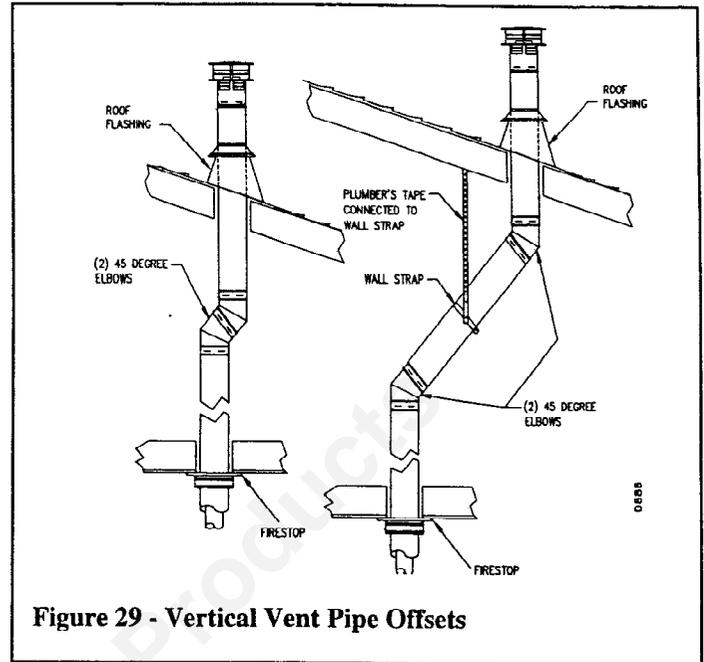
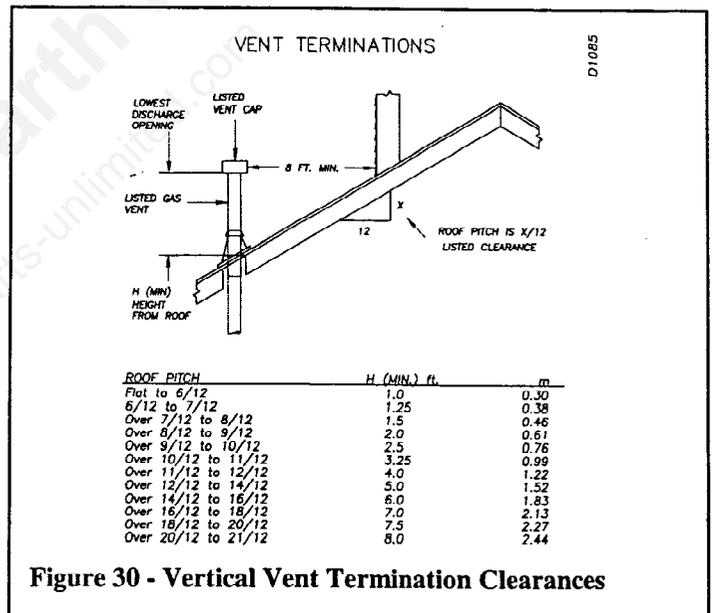

Figure 29 - Vertical Vent Pipe Offsets
Figure 30 - Vertical Vent Termination Clearances
1. Determine the route that your vertical venting will take. If ceiling joists, roof rafters, or other framing will obstruct the venting system, consider an offset (see Figure 29) to avoid cutting load-bearing members. **NOTE:** Pay special attention to these installation instructions for required clearances to combustibles when passing through ceilings, walls, roofs, enclosures, attic rafters, etc. Do not pack required air spaces with insulation. Also note maximum vertical rise of the venting system and any maximum horizontal offset limitations. Offsets must fall within the parameters shown in Figure 30 and Figure 15 on page 6.
**Note:** If an offset is needed to avoid obstructions, you must support the vent pipe every 3 feet. Use wall straps for this purpose (see Figure 29). Whenever possible, use 45° elbows instead of 90° elbows. The 45° elbow offers less restriction to the flow of the flue gases and intake air.
- Place the flashing over the pipe section(s) extending through the roof. Apply a bead of silicone or roof sealer to the bottom flange of the flashing and secure the base of the flashing to the roof and framing with roofing nails. Be sure roofing material overlaps the top edge of the flashing as shown in figure 29, on page 12. There must be a 1" clearance from the vent pipe to combustible material.
- Continue to add pipe section(s) until the height of the vent cap meets the minimum building code requirements described in Figure 15, on page 6. Note you must increase the vent height for steep roof pitches, nearby trees, adjoining rooflines and other adjacent factors, which may cause poor drafting or a down-draft condition (see Figure 30, on page 12). Increasing the vent height may solve this problem.